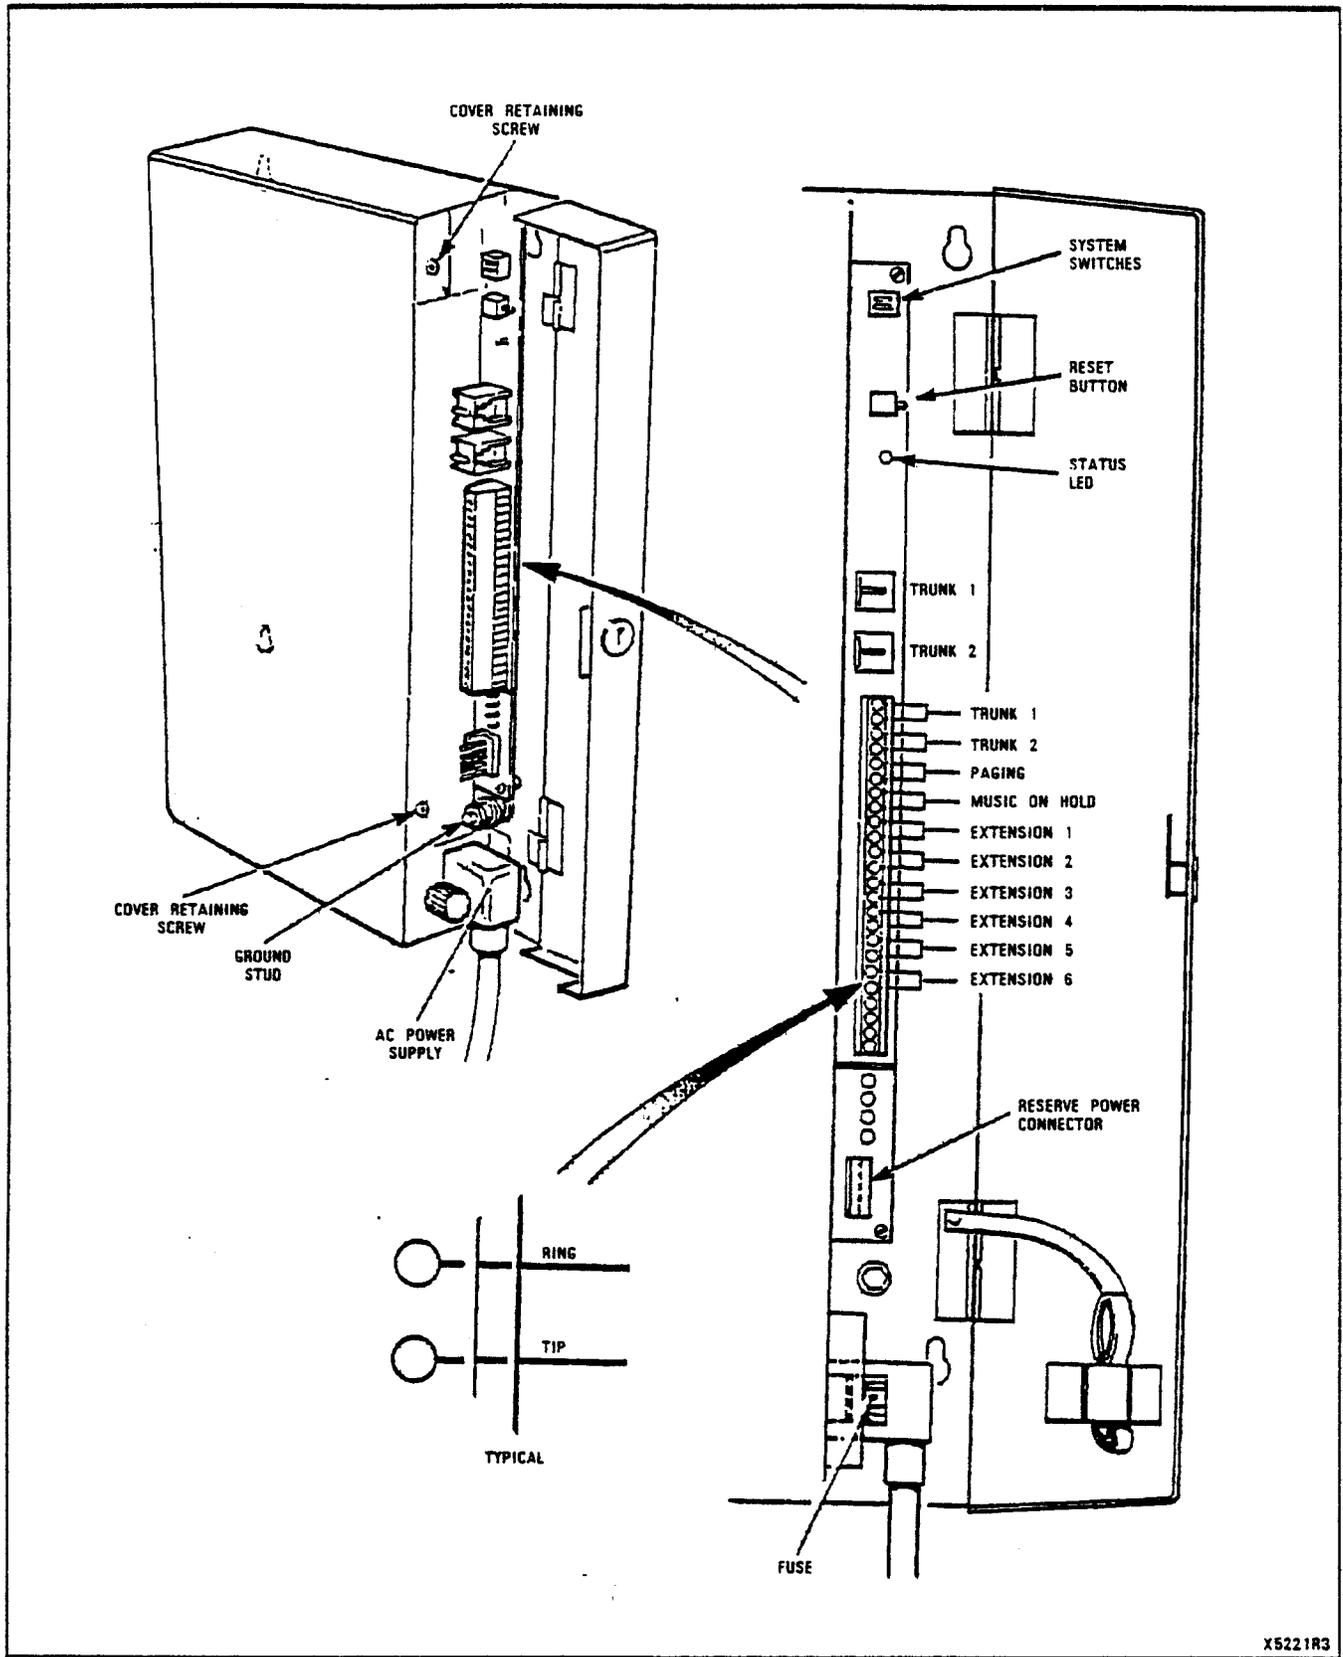

Fig. 2-1 SX-5 Equipment Cabinet
2.02 The SX-5 consists of a single cabinet, holding the switching circuitry and power supply. System power is 110 volts or 220 volts at 60 or 50 Hz, fed through the power cable from a commercial power outlet. All other connections to the system are made using standard telephone connection cable and screw-down terminals. Refer to Fig. 2-1, SX-5 Equipment Cabinet. Optionally, the two CO trunks may be connected via standard RJ11C connectors. The Main Card, which contains the switching circuitry, is accessible at two levels. The first level of entry allows access to the terminal strip, LED's, and system switches. The second level of entry allows module replacement by a qualified technician.